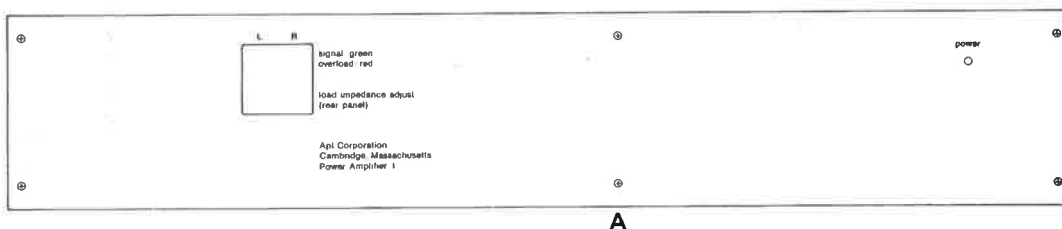
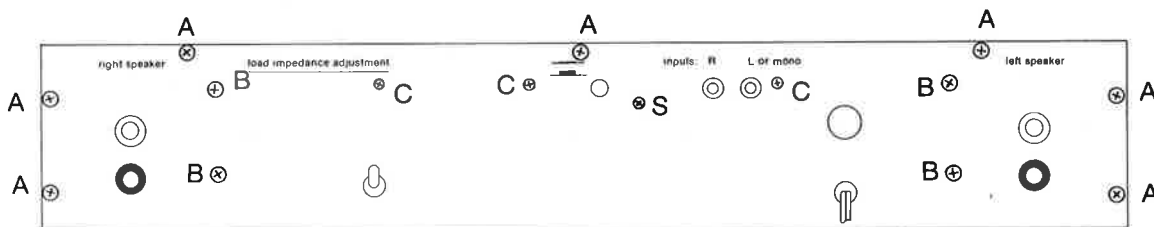

Fig. 6-1. Front Panel.
Fig. 6-2. Back Panel.
- 6.2 Top Cover and Front Panel.** The front panel will never need to be removed separately, except for replacement. Instead, the top cover and front panel should be removed from the amplifier as a unit. Remove the flat 4-40 \times 3/8 flat head cap screw marked A in Fig. 6-1 with a 1/16 in. hex driver. Remove the two no. 6 sheet metal screws at each end of the amplifier (not shown) with a no. 2 Phillips driver and the seven no. 6 sheet metal screws marked A in Fig. 6-2. To avoid damage to the LED power indicator, lift the *rear* of the top cover about half an inch, then lift the cover off. Before proceeding further,
- 11.2.1 Removal of the Original Panel and Top Cover.** Remove the top cover according to section 6.2 (Figs. 6-1 and 6-2). Remove the front panel hex socket screws with the 1/16 in. socket hex key supplied and set them aside. Press the LED (Power indicator) with your thumb, and ease the panel off.